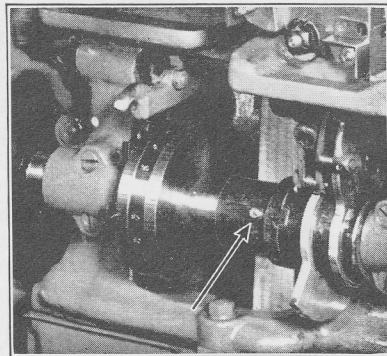

Fig. 4. Reversing shaft coupling
**Disengage Reversing Shaft Coupling.** Pry the coupling back with a screw driver. A small detent plunger serves to hold the coupling in the "off" or "on" positions. On larger machines, a screw clamp on the coupling is used to lock it in the "on" and "off" positions. See Fig. 4.